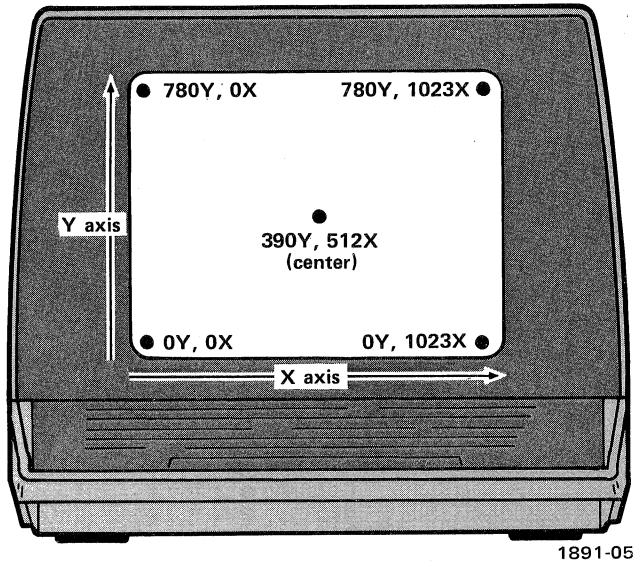

Fig. 3-1. Display Screen Coordinates.
In Graph mode, the 4006-1 uses 1024 addressable points on each axis to draw vectors on the screen. 780 of these points are visible in the quality display area on the vertical (Y) axis of the display screen. The XY coordinates for the corners (and center) of the display screen are shown in Fig. 3-1.